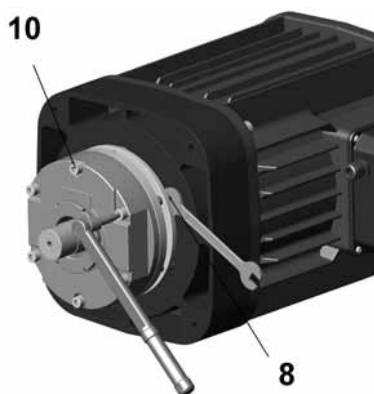

fig. 151
8. Put back the three screws -7- in the original place on the ring -8- screwing them up again on the block -9- (fig. 151).